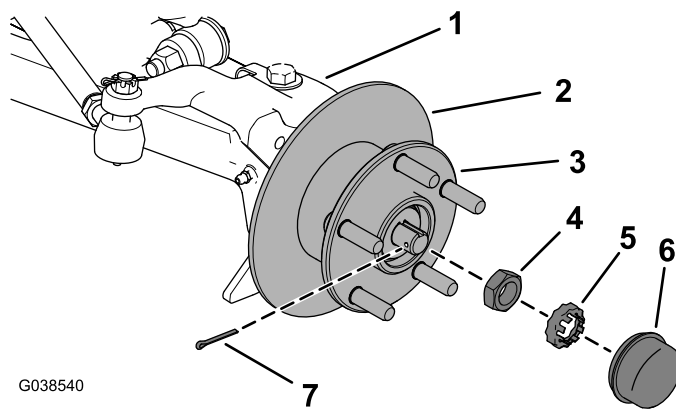

**Figure 5**
- Remove the front brake line from the master cylinder (Figure 5).
1. Install the front brake line to the master cylinder (Figure 5).